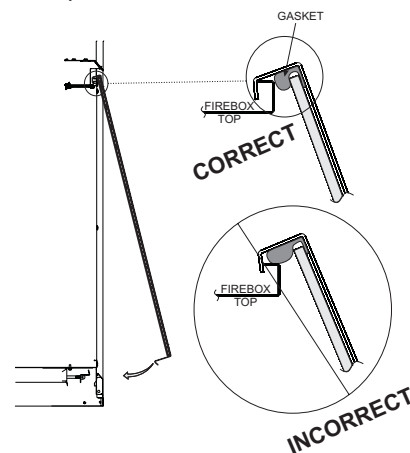

Figure 90
1. When installing the Glass Door assembly, make sure that the door top flange is hooked over the firebox top flange as illustrated in the "Correct" view in **Figure 90**.
**Important: Do not allow the gasket across the top of the door to roll up on top of the firebox flange as shown in "Incorrect" view in Figure 90.**